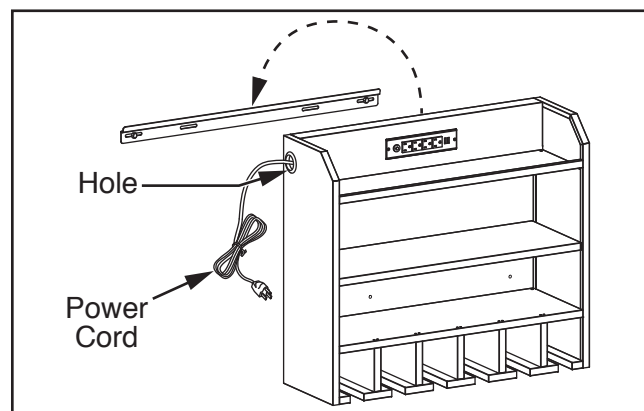

Figure 6. Placing charging station.
4. Drill pilot holes in locations marked in **Step 3**, then install mounting bracket into wood studs using (2) lag screws and flat washers.
5. Feed power cord through hole in charging station, then place charging station on mounting bracket (see **Figure 6**).